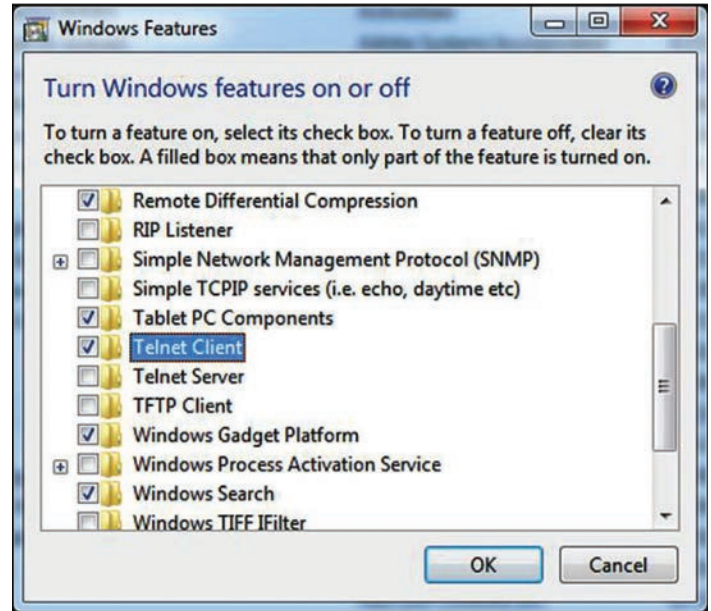

Figure 73: Windows features dialog box
4. In the Windows Features dialog box, check the Telnet Client check box (see Figure 73 below).